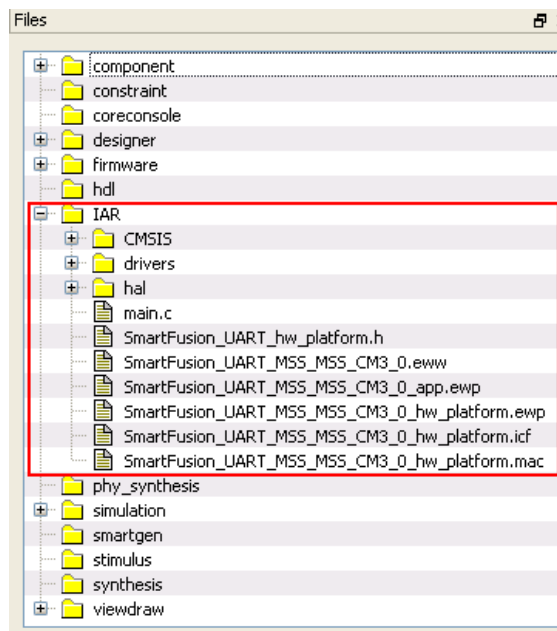

Figure 13 · Files Window After Generating the Project
7. Ensure that the IAR folder is created with the folders and files, as shown in Figure 13 .